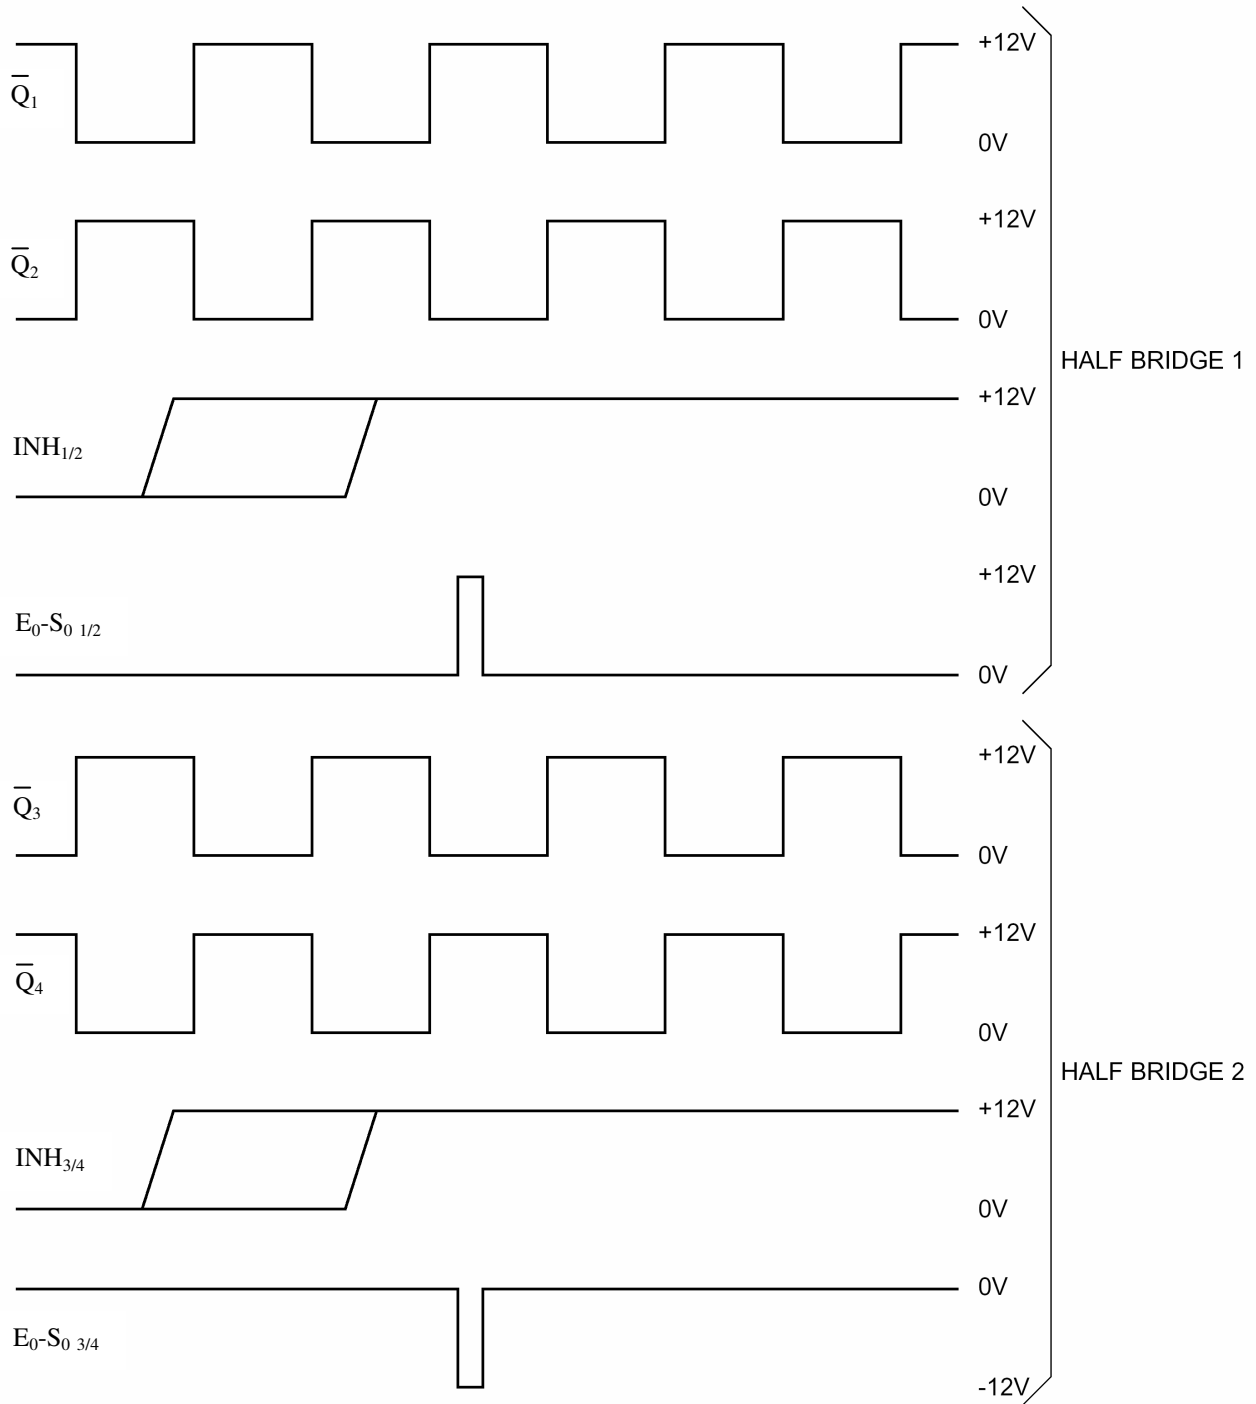

Figure 11: example of input signal for 4 x APTLGF210U120T modules connected in a Full Bridge configuration
• The startup signal, between E₀-S₀, may also be implemented by a negative pulse synchronized with input signal Q being low and forcing the lower switch to turn ON. Examples of both startup sequences being used in the startup of a full – bridge configuration is shown in figure 11.